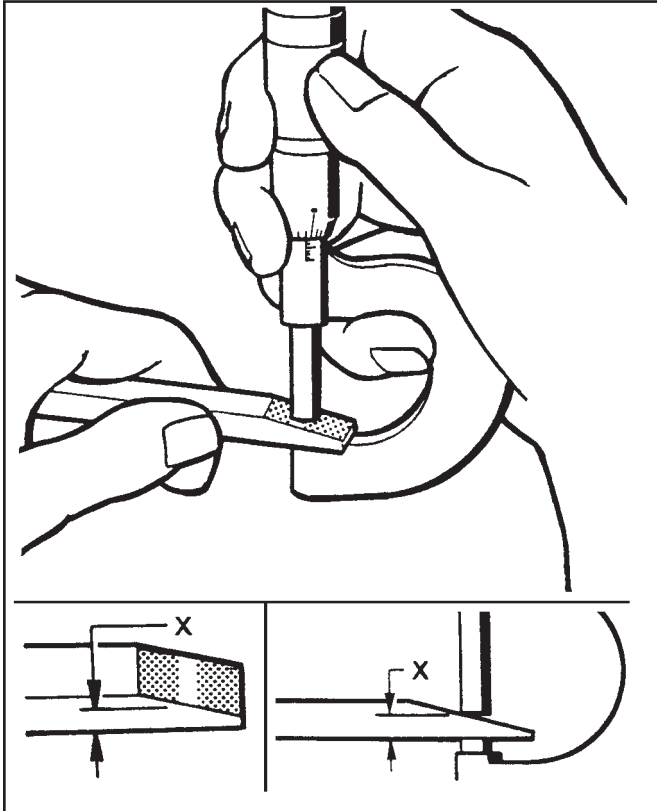

Figure 9.13 - Measuring Piston Stroke
5. The solid shoulder will scrape the bluing off the Gap Tool as shown in Figure 9.13. To get an accurate measurement, slightly push the Gap Tool side to side when it is firmly inserted. (This will remove the bluing in a straight line rather than an arc.)
6. Measure distance "X" with a micrometer as shown in Figure 9.13. Compare the measurement with the tabulated limits shown in the Piston Stroke Table on the next page.